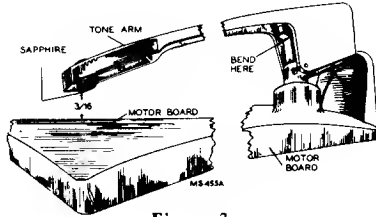

Figure 3
3. Bend portion of the tone arm bracket so that the sapphire is $3/16$ inches above the flat surface of the motorboard. (Figure 3.)